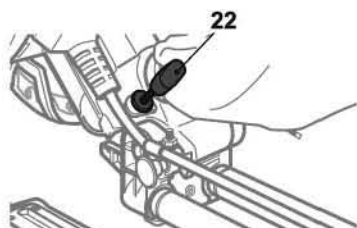

Fig. 51
2. Lift the handle (1) to its full height (Fig. 51).